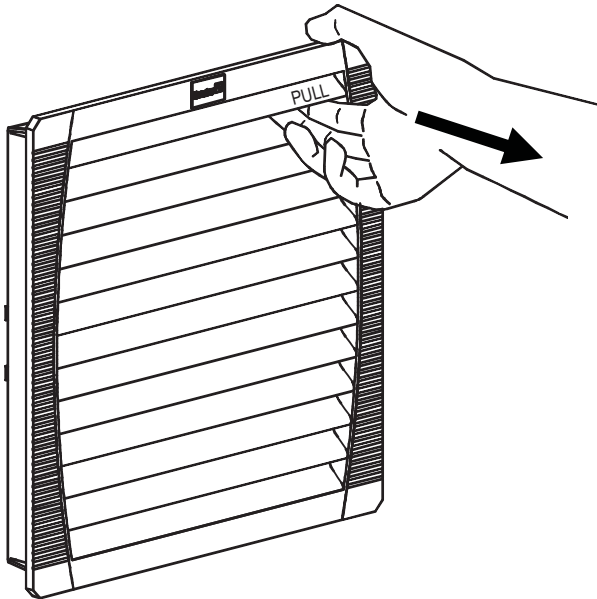

fig. 10.1
- 10 Filterfan replacement filtermats are sold separately at [www.filterfanusa.com](http://www.filterfanusa.com), for Filterfan model PF 22000. Remove cover from Filterfan on side of enclosure assembly (A) as shown in figure 10.1. Remove and replace filtermat as shown in figure 10.2.